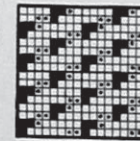

Fig. 4
*Weave:* See Fig. 4; repeat 16 by 4; 16-harness.